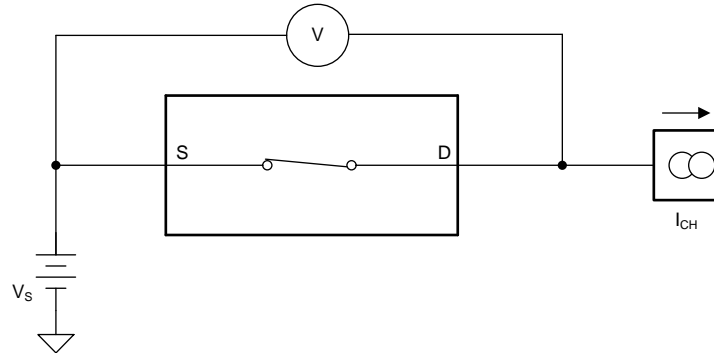

图 26. On-Resistance Measurement Setup
The on-resistance of the MUX36xxx is the ohmic resistance across the source (Sx, SxA, or SxB) and drain (D, DA, or DB) pins of the device. The on-resistance varies with input voltage and supply voltage. The symbol  $R_{ON}$  is used to denote on-resistance. The measurement setup used to measure  $R_{ON}$  is shown in 图 26. Voltage (V) and current ( $I_{CH}$ ) are measured using this setup, and  $R_{ON}$  is computed as shown in 公式 1: